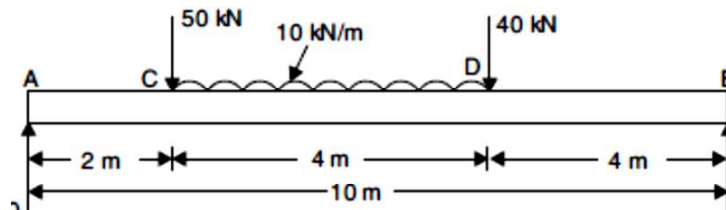

Fig. 2
- 3 a) A simply supported beam of length  $10 \text{ m}$ , carries the uniformly distributed load and two-point loads as shown in Fig. 2 Draw the S.F. and B.M. diagram for the beam. [7]